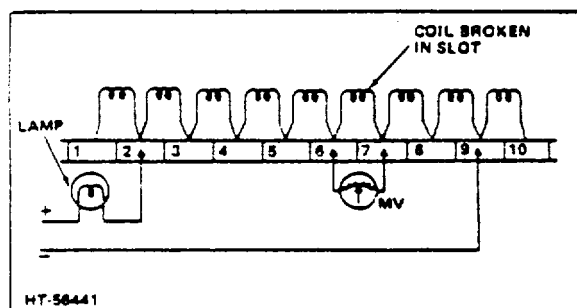

Figure 4-2. Method of Locating an Open Coil
- a. Place the armature on "V" blocks and connect a source of direct current to the commutator. (Use the circuit of Figure 4-2.)
- b. Test by spanning bars with millivoltmeter leads as illustrated in Figure 4-2.